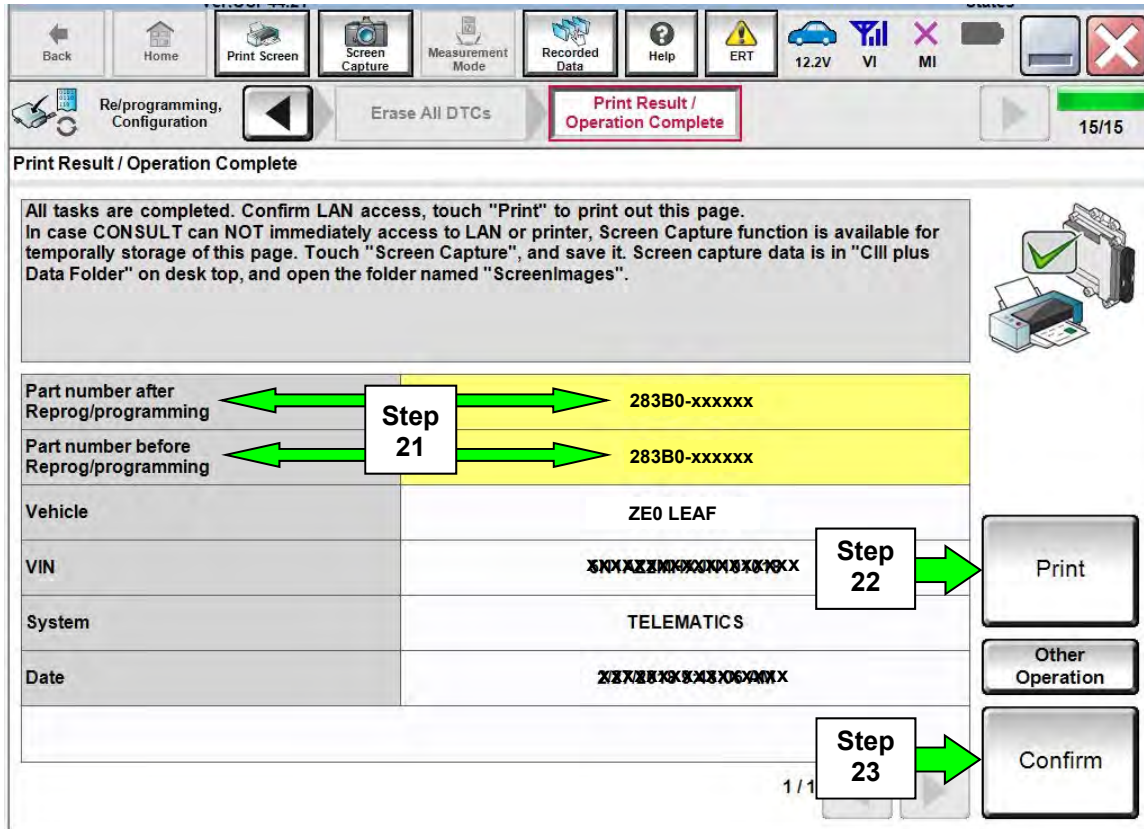

Figure 31
20. When the entire reprogramming process is complete, the screen in Figure 31 will display.
22. Print a copy of this screen (Figure 31) and attach it to the repair order for warranty documentation.